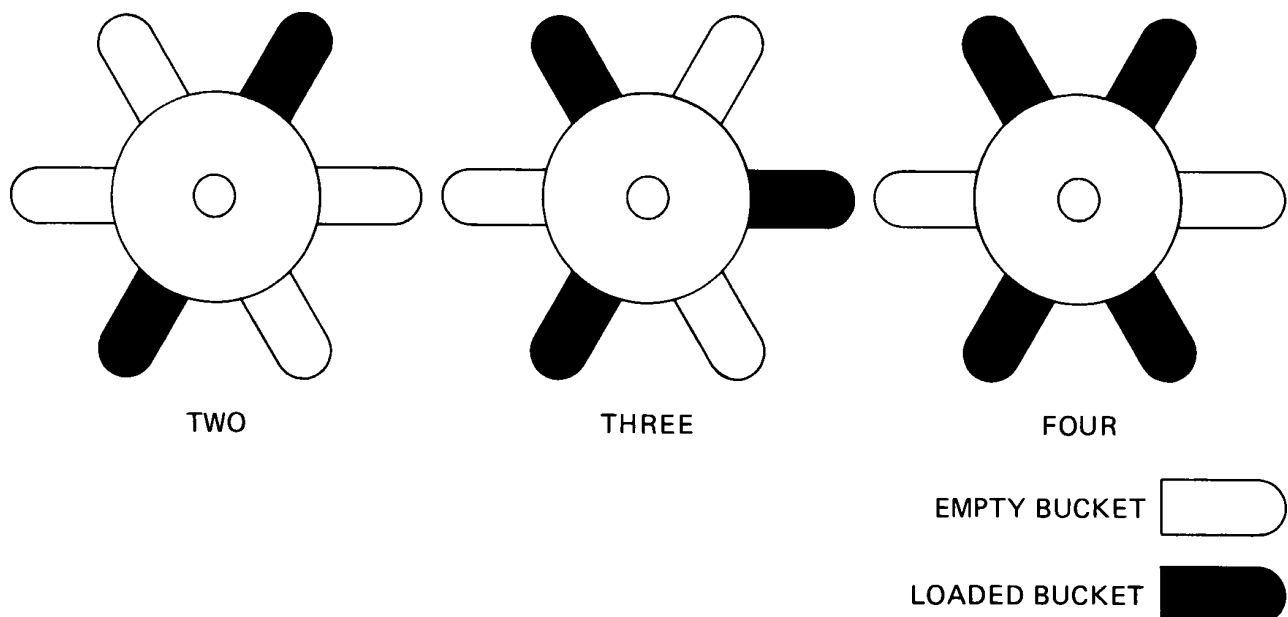

Figure 2-2. Rotor Balancing
NOTE The Surespin™ 630 may be run with two, three, four, or six tubes. If six tubes are not required or if not all tubes will have identical contents, consider how the tubes must be configured in the rotor, so that the rotor will be balanced. Buckets are to be run empty if less than six tubes are used (see Figure 2-2).
4. Carefully place the tubes into the buckets so that opposing bucket numbers (1 & 4, 2 & 5, and 3 & 6) contain similar loads. If running three tubes (see Figure 2-2), all three must contain similar loads.